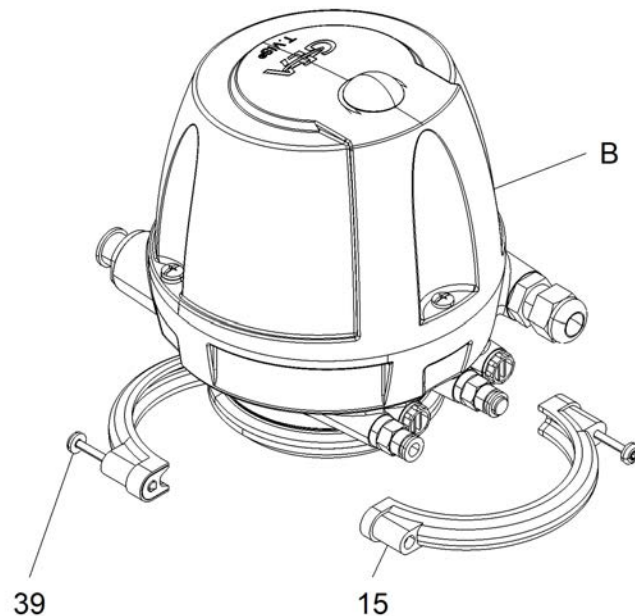

Fig.32
- Pay attention to the correct assignment of cables between the solenoid valves and the printed circuit board (78.1) (see Fig. 32) – solenoid valve Y1 must be connected to connector J2 and solenoid valve Y3 to connector J4.